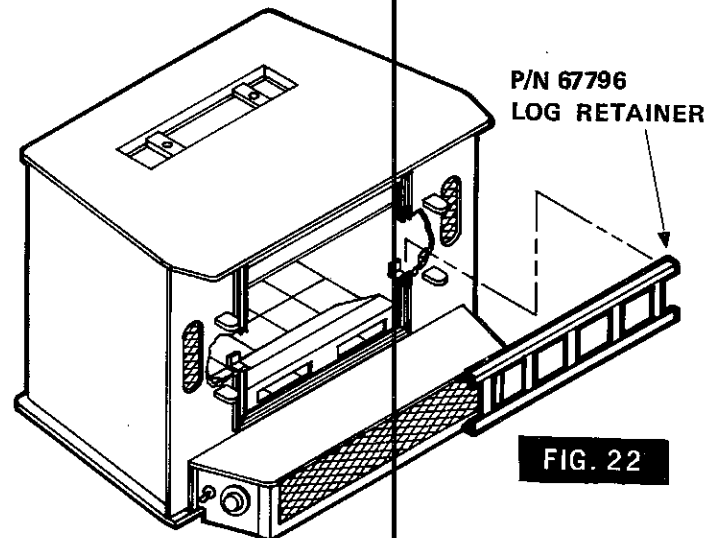

FIG. 22
2. Install log retainer on the hangers located just inside the door opening as shown in Figure 22.